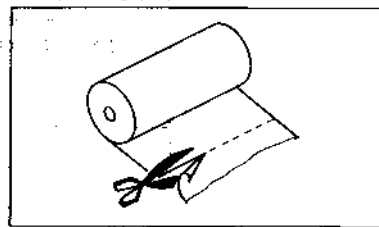

Fig. 1
- (1) Set the plotter POWER switch to ON and the ON LINE/LOCAL switch to LOCAL.
- (2) Cut across the paper to form a clean end (Fig. 1).